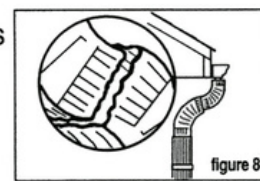

figure 8
Each elbow (7) (8) and downspout section has one end crimped smaller than the other. Fit the smaller end of one section down into the larger end of the next section and press the sections snugly together (figure 8).